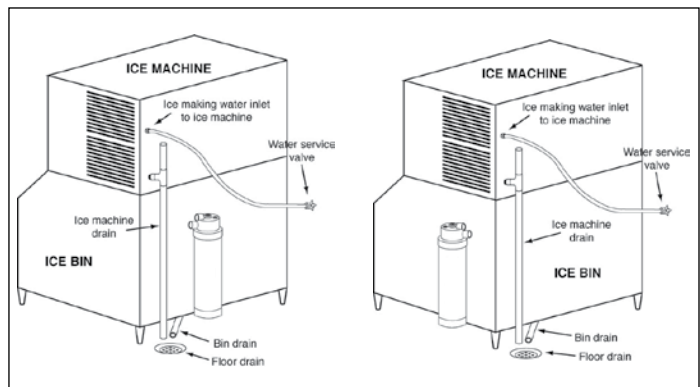

Figure 3. Installation of Chill ICE
2. Install the Chill ICE unit behind or to the side of the ice machine bin at least 6 inches (15 cm) beneath the height of the machine's Sump Water Discharge Outlet (Figure 3).